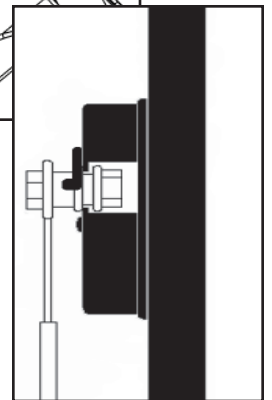

Figure 9
- Make sure that both Pivot Pins are seated at the base of the slot in the hinge plate. Check to make sure that the self-locking hooks have closed over both Pivot Pins, and the table rotates smoothly (Figure 9).